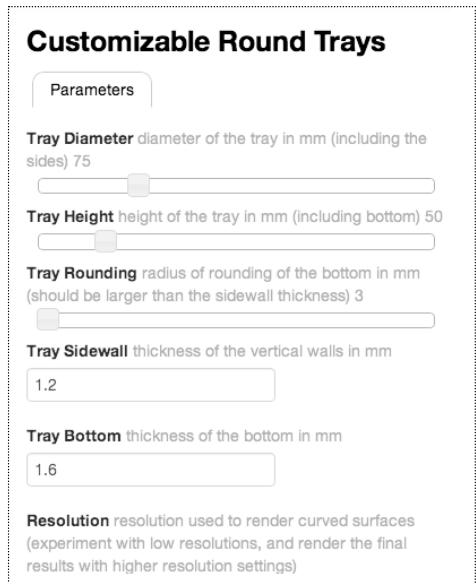

Fig. 13.3
6. In the Parameters tab, we can edit the following parameters [Fig. 13.3]:
**Resolution:** Specifies STL resolution. In our example, select Medium. [Fig. 13.3]